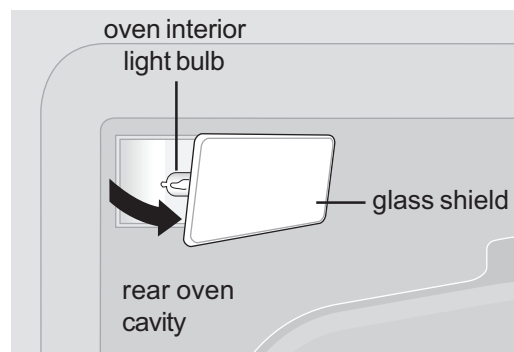

Figure 77: Oven light and glass shield
The interior oven light bulb is located at the rear oven cavity and is covered with a glass shield. The glass shield must be in place whenever the oven is in use (Figure 77).
2. Remove interior oven light shield (Figure 77).